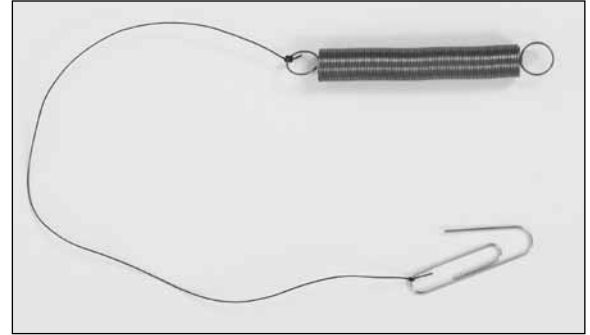

Figure 1
1) Cut two pieces of string eight to 10 inches long. Tie one string firmly to one end of the spring. Tie the other end of the string firmly to the paperclip as shown (a dab of glue can help hold the knots more securely). Slightly bend out the end of the paper clip (Figure 1).